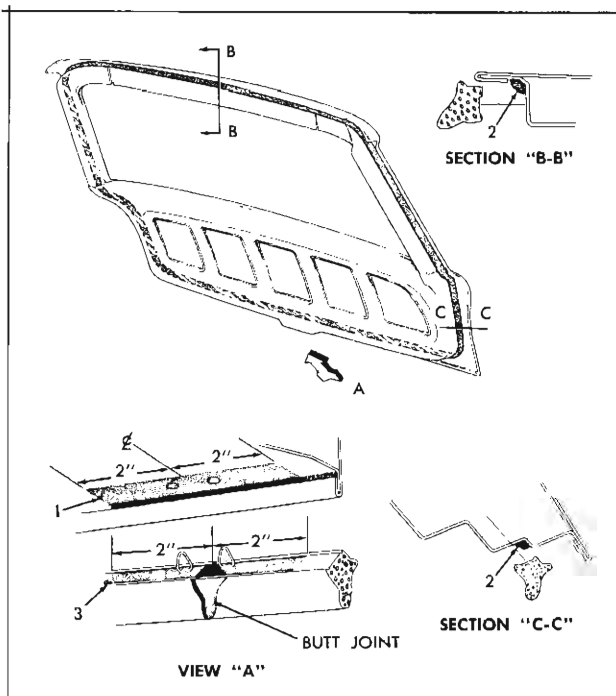

Fig. 14-19 Back Door Weatherstrip Installation
3. For distance of 2 inches on both sides of the butt joint location (bottom center of door), apply weatherstrip adhesive (neoprene type) to the door panel surface contacted by weatherstrip (See 1 in view "A", Fig. 14-19).
5. For a distance of 2 inches on both ends of weatherstrip, apply a coat of weatherstrip adhesive (neoprene type) to the weatherstrip surface which contacts the door panel (3 in view "A" Fig. 14-19).
7. Apply weatherstrip adhesive (neoprene type) to butt ends of weatherstrip and cement ends together to form an even butt joint. (See view "A", Fig. 14-19).